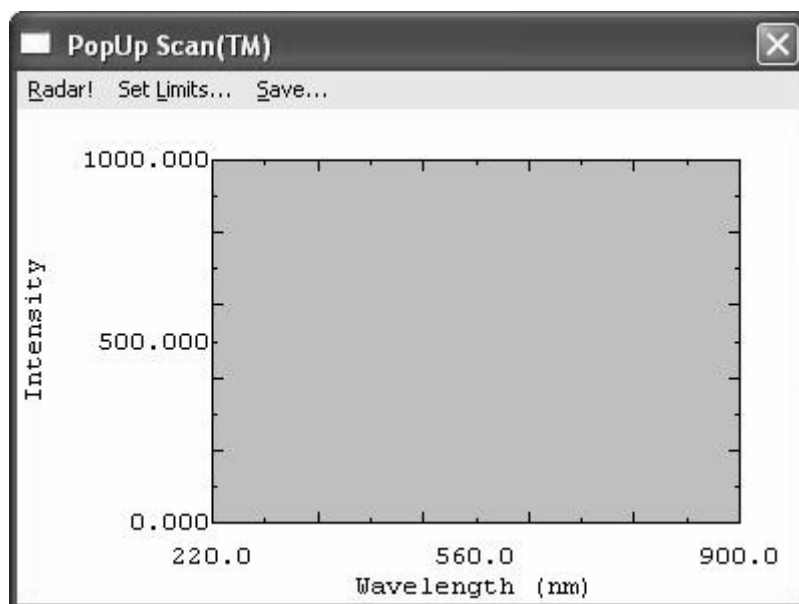

Fig. 6.7 PopUp Scan(TM) menu
The PopUp Scan(TM) feature allows a sample to be scanned without having to change the current acquisition mode or parameters. The scan is displayed in a popup window which can be moved, resized, or closed. The window illustrated in Fig. 6.7 contains the following selections.